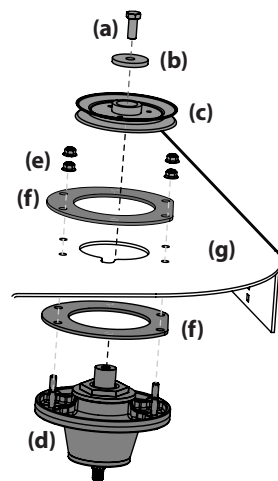

Figure 24
6. Remove the hex lock screw (a) and flat washer (b) securing the spindle pulley (c) to the spindle assembly (d). See Figure 24.
7. Remove the four (4) flange lock nuts (e) securing the spindle assembly (d) and the two support plates (f) to the deck shell (g). See Figure 24.
8. Reverse the process to install the spindle assembly. When installing the new spindle assembly be sure to install the hardware exactly as shown in Figure 24. Torque the hex lock screws (a) to 90-110 ft-lbs and the flange lock nuts (e) to 13-20 ft-lbs.